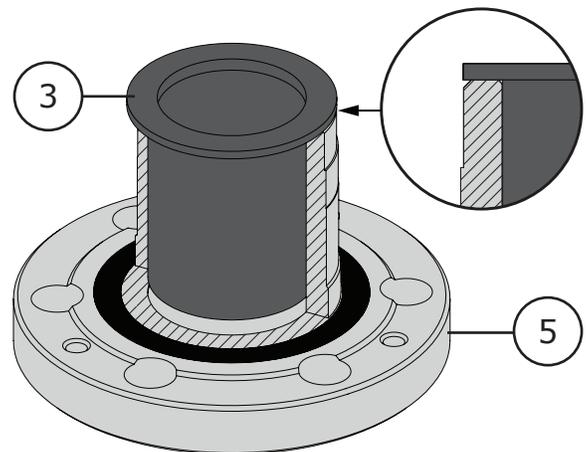

Figure 36 16 Inch Outboard Bearing Installation
- 1 Remove the outboard bearing (Key 3) if it hasn't already been removed. Use a rod to drive the bearing out of the flange (Key 5) if necessary. Refer to Figure 36.
- 2 Install a bearing into the flange (Key 5) as shown in Figure 36.